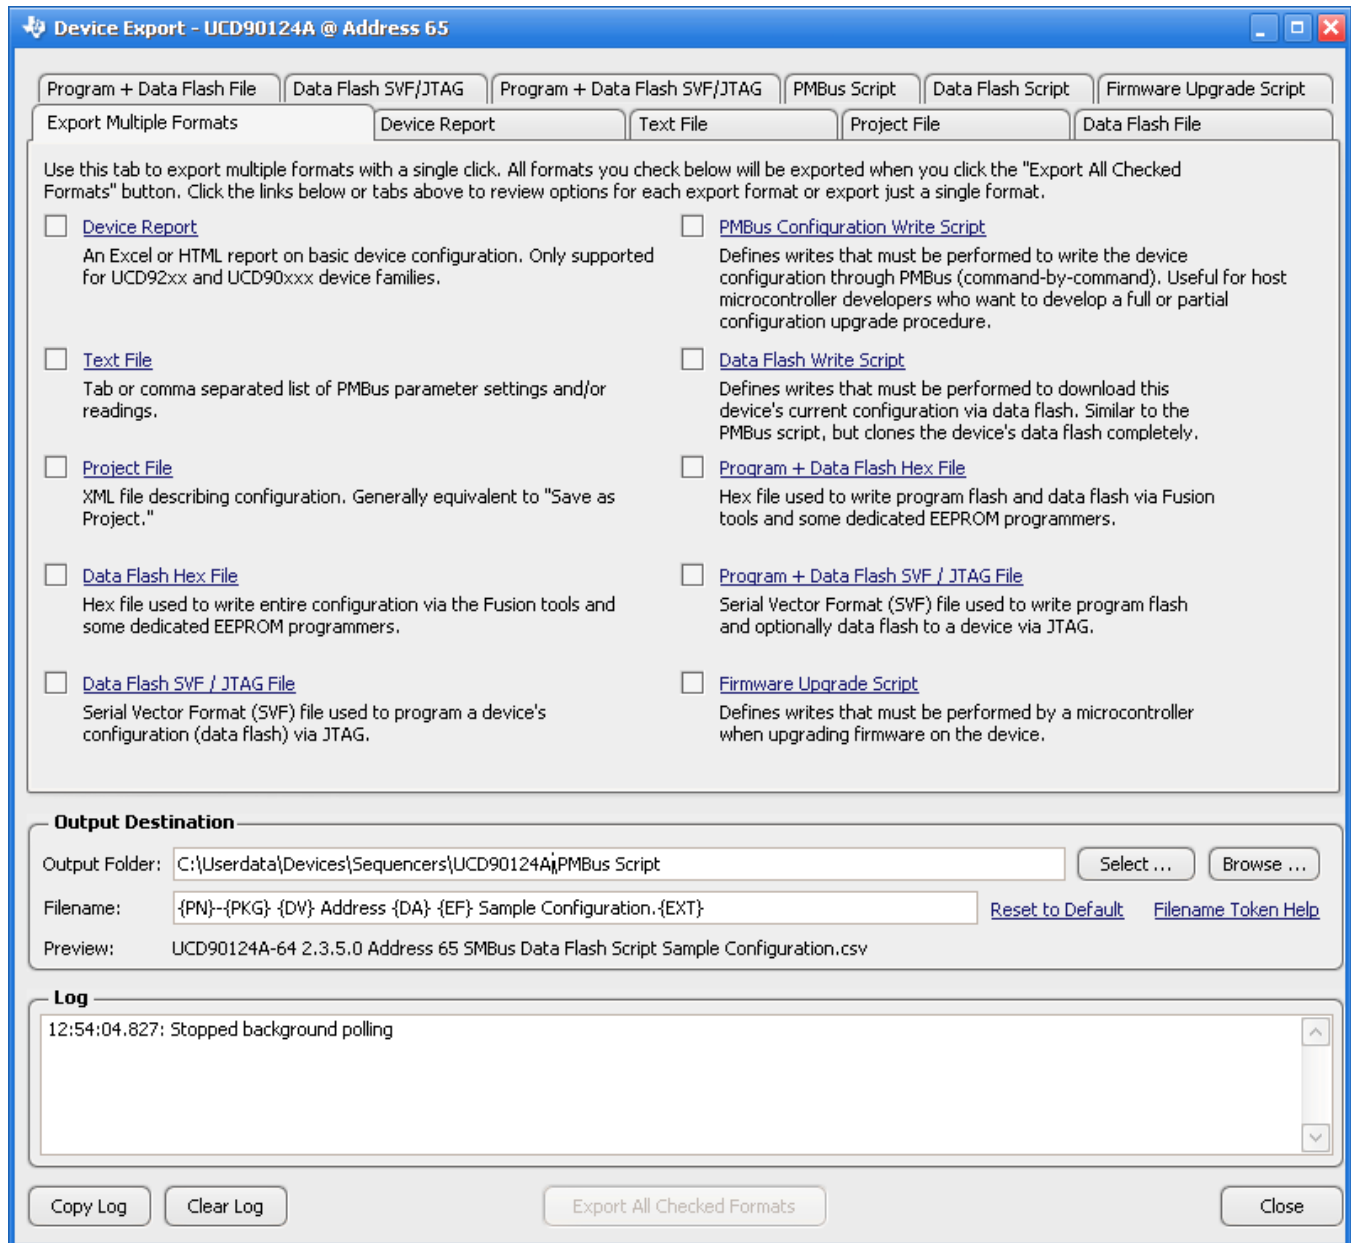

Figure 34. Fusion GUI Device Configuration Export Tool
- Another in-circuit programming option is for the *Fusion GUI* to create a data flash image from the configuration file (Figure 34). The configuration files can be exported in Intel Hex, Serial Vector Format (SVF) and S-record. The image file can be downloaded into the device using I²C or JTAG. The *Fusion GUI* tools can be used on-board if the *Fusion GUI* can gain ownership of the target board I²C bus.